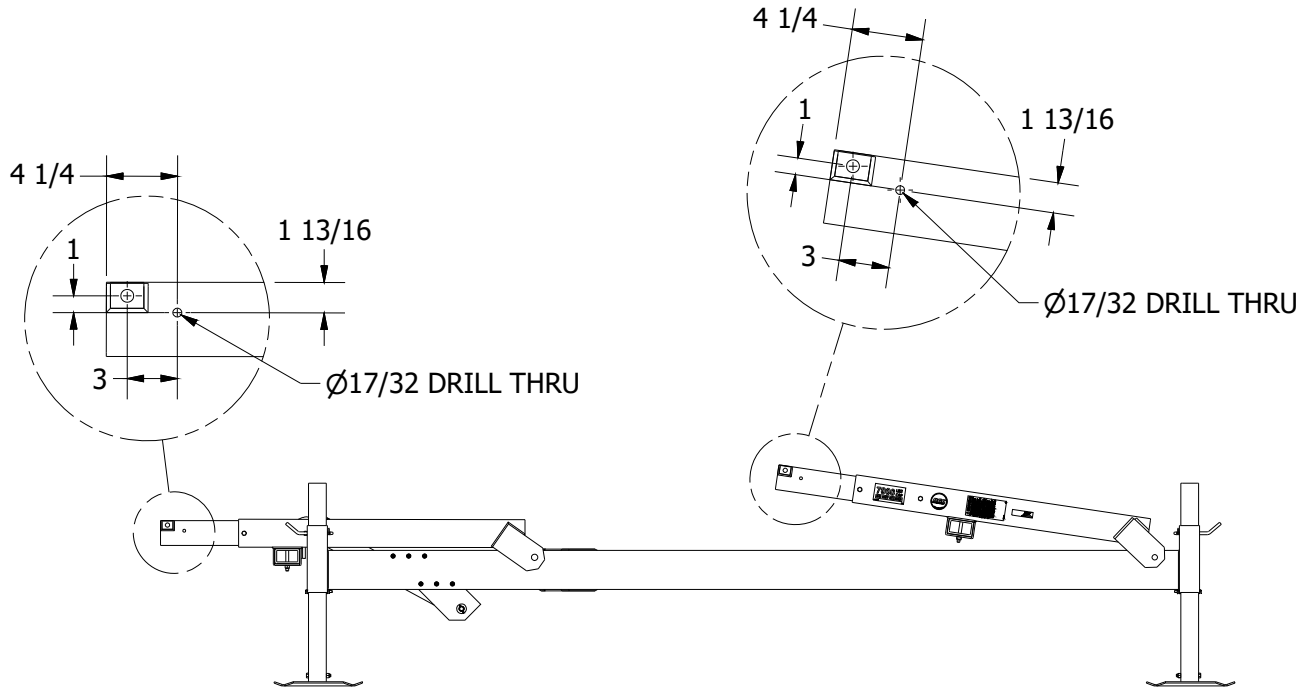

Figure 2-1B.
1. **Refer to Figures 2-1B.** Layout the holes shown in **figures 2-1B.** To aid in new hole location, align pivot plate (5) with existing liftarm extension tube hole.